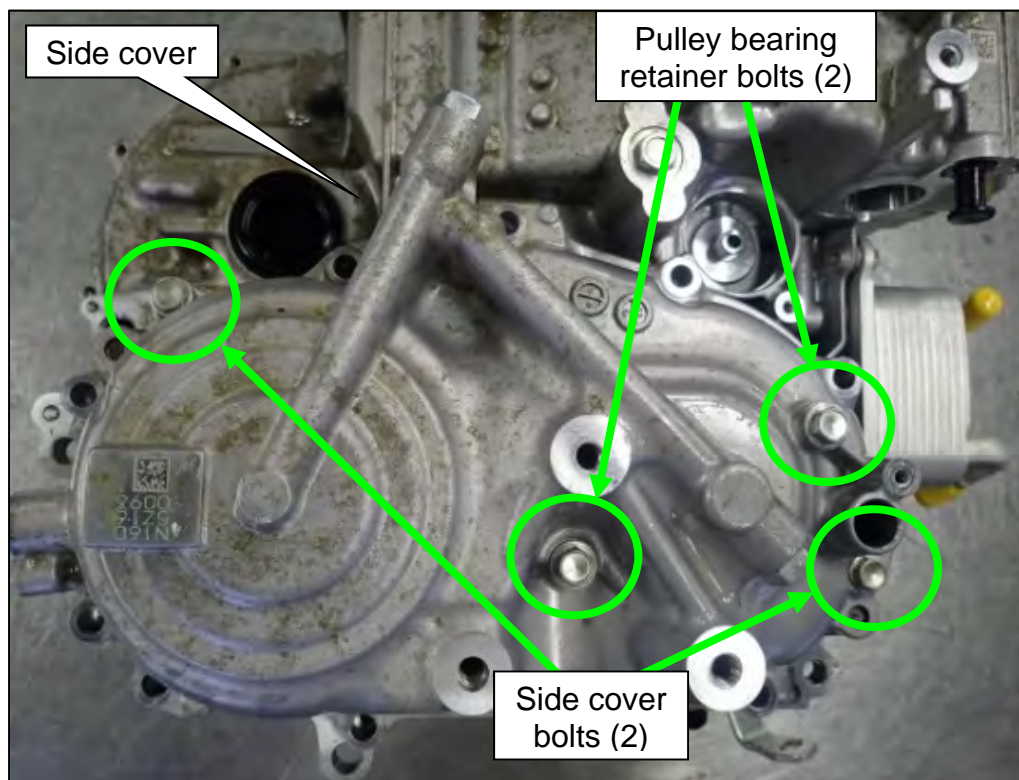

Figure 104
80. Install the two (2) original pulley bearing retainer bolts (Figure 104) as follows:
81. Temporarily reattach the removed side cover onto the CVT case with two (2) original bolts on opposite corners, hand tight.